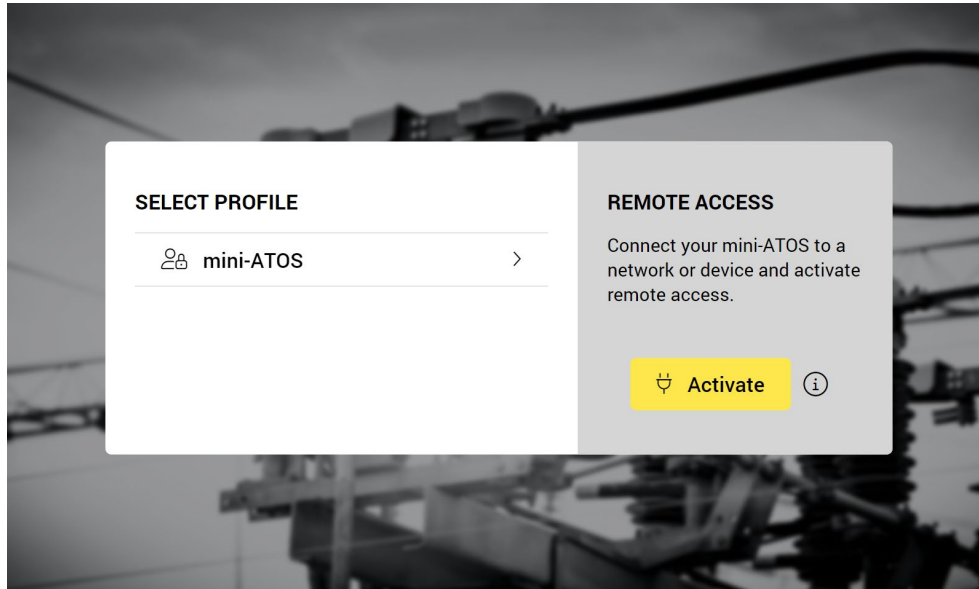

Figure 117: Select the Profile page on the mini-ATOS display
- 3- From the home page or the main menu, tap the logout icon  to see the select profile page like Figure 117. You can also tap on the information icon  to see the remote access instructions